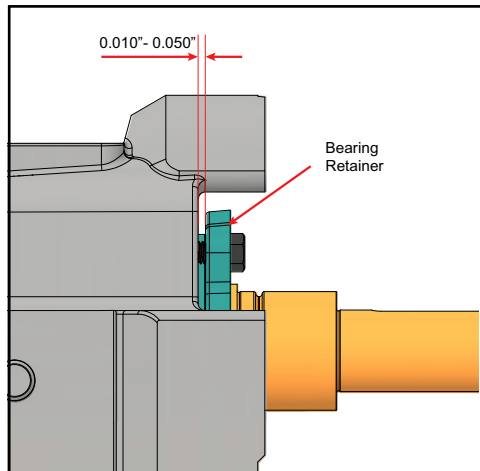

Figure 60 - Bearing Retainer Clearance
5. The bearing retainer must rest firmly against the bearing. Leave a .010 to .050 in (.25 to 1.25 mm) clearance between the back of the bearing retainer and the front of the gear case (Figure 60). If this clearance is not met, place shims between the bearing and retainer.